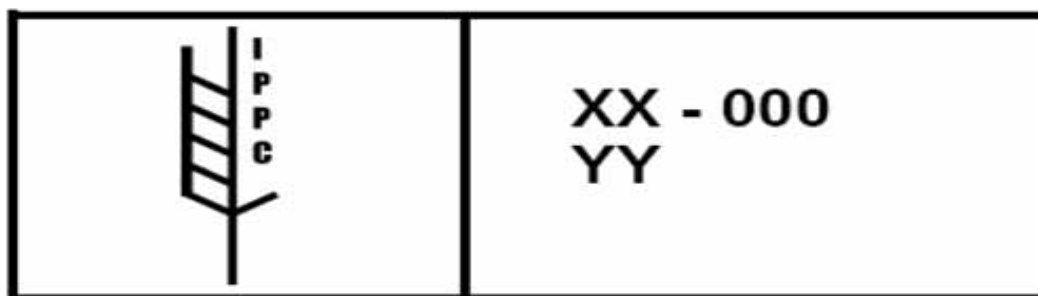

Figure 2. Example of International Plant Protection Convention Marking
The wood packing material must be stamped in a visible location on each article, with a legible and permanent mark that indicates the article has met the treatment required. The mark must be approved by the International Plant Protection Convention (IPPC). The currently approved mark is shown in Figure.2. XX would be replaced by the country code, 000 by the producer number, and YY by the treatment type (PH).